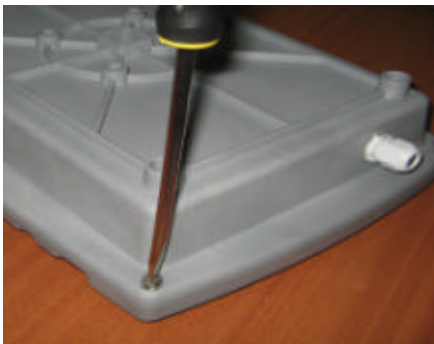

Figure 1. Unscrew enclosure
- Unscrew the back of the enclosure and carefully lift off the lid containing the integrated antenna (refer to figure 1).